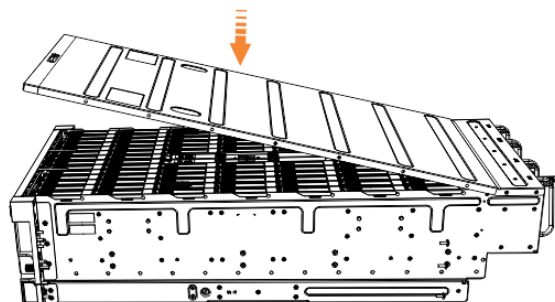

Figure 108. Aligning the top cover
6. Carefully lower the cover and ensure that it is aligned correctly with the back of the enclosure, as shown in Figure 108 on page 158.